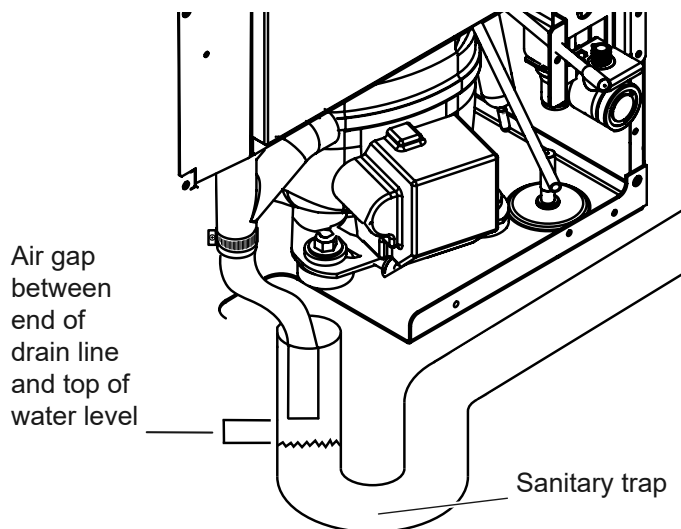

Figure 12: Example of an open drain.
- c. Your drain line is plumbed into an open drain (Figure 12).